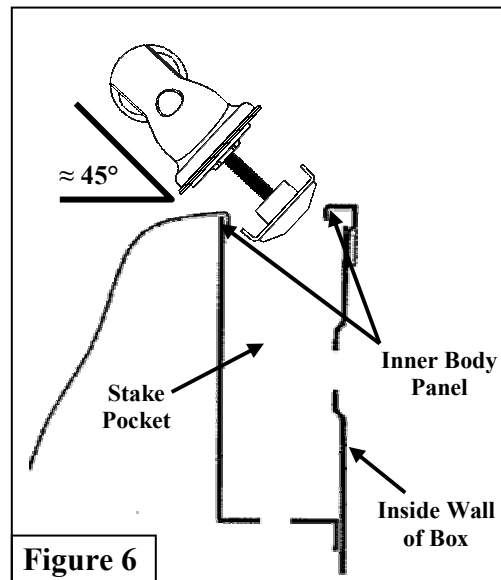

Figure 6
10. Insert locker end casting with the front driver plastic gasket into the driver front pocket hole at about a 45° angle in orientation shown in (Figure 6).
- IMPORTANT: Both bracket flanges must rest on inner body panel for secure installation. Refer to (Figure 6) for locations**